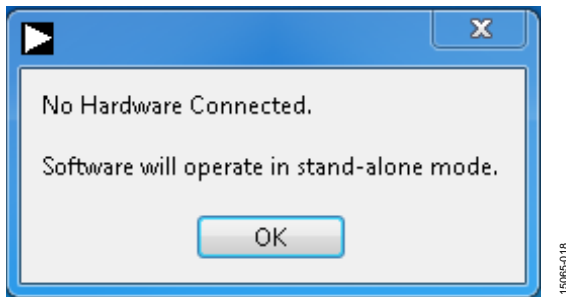

Figure 19. Software Indicates Operating in Standalone Mode
3. If operating in standalone mode, the window in Figure 19 displays.